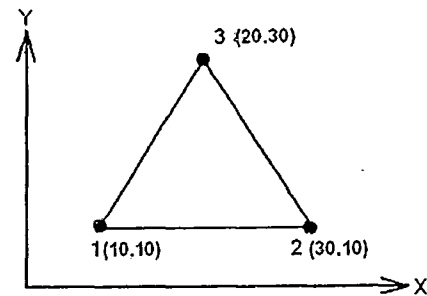

Fig.14.a
- 14.a i) A plate of dimensions 15cm x 6 cm x 1cm is subjected to an axial pull of 15kN. Assuming a typical element is of dimensions as shown in the fig.14.a. Determine the strain displacement matrix and constitutive matrix. $E = 200 \text{ GPa}$, $\mu = 0.3$. (8 marks)